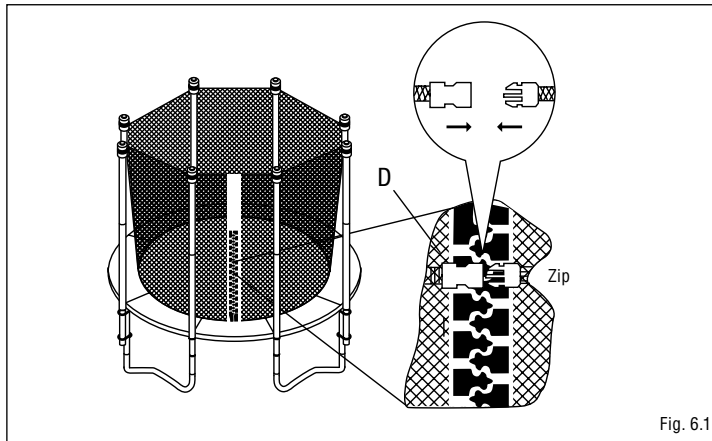

Fig. 6.1
Close the zipper on the safety net (D) entrance. Ensure that the entrance is located between two trampoline support legs, then connect the two snap closures (Fig. 6.1) (the lower snap closure is not illustrated).